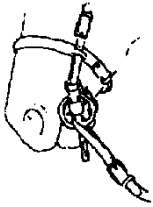

Fig. 6a - Billet too long
- Reins can be webbing or leather but the billet should not be too long as, when set on rough cheek, they may drop down over the bars to lie incorrectly (see Figures 6a and 6b).